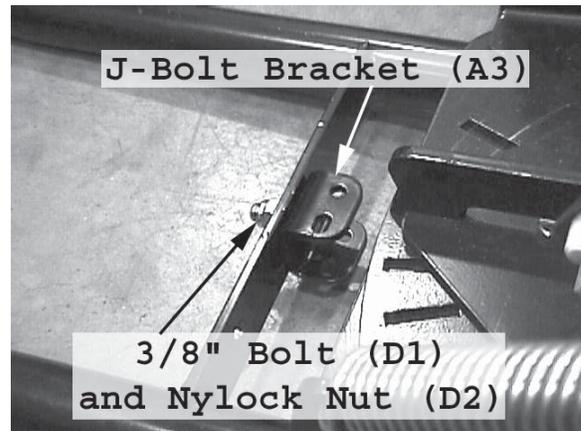

Figure 4 Attach J-bolt Bracket
11. Attach the J-Bolt Bracket to the plow crossmember using a 3/8" dia-1" long Bolt, and 3/8" Nylock Nut as shown in Figure 4. The bracket should be installed on the plow blade side of the crossmember. Attach the 3/8" bolt such that the head of the bolt is inside the bracket and the threaded end points toward the ATV.